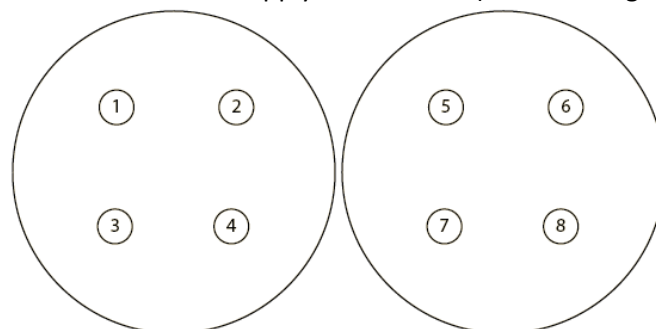

Figure 6: Testing a wide range of ampicillin concentrations. The labels on this diagram are the concentrations.
8. Dip blank discs into each solution and apply to the lawns (such as in Figure 6).